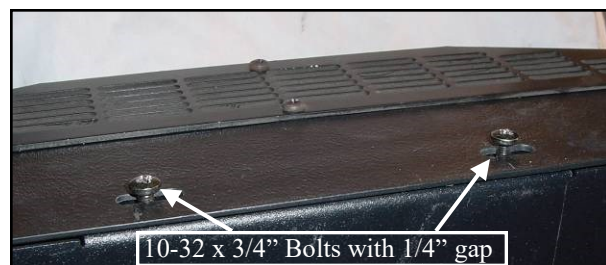

Figure 2.4 (view from above heater unit front)
2.4 Per fig. 2.4, partially thread two 10-32 x 3/4" long Phillips head bolts in the front of the heater unit. Leave about 1/4" gap between bolt head and heater unit to allow installation in slots on Heater Mount 1.